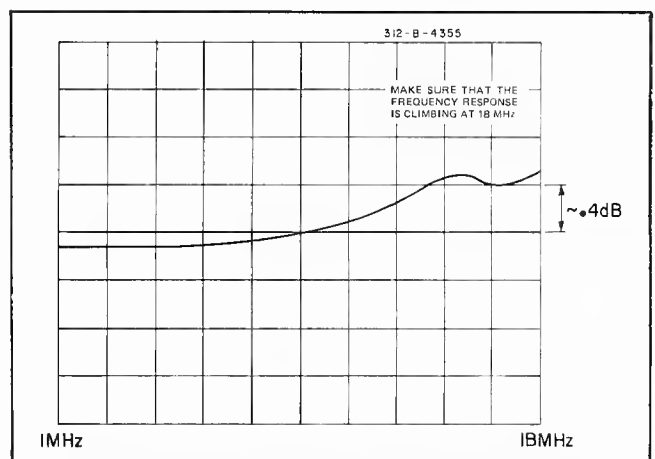

Figure 5-16. A33C10 and A33C11 Adjustments.
6. Adjust C11 and C10 for the frequency response curve shown in Figure 5-16. Start by opening C11 and then closing C10 (these adjustments interact).